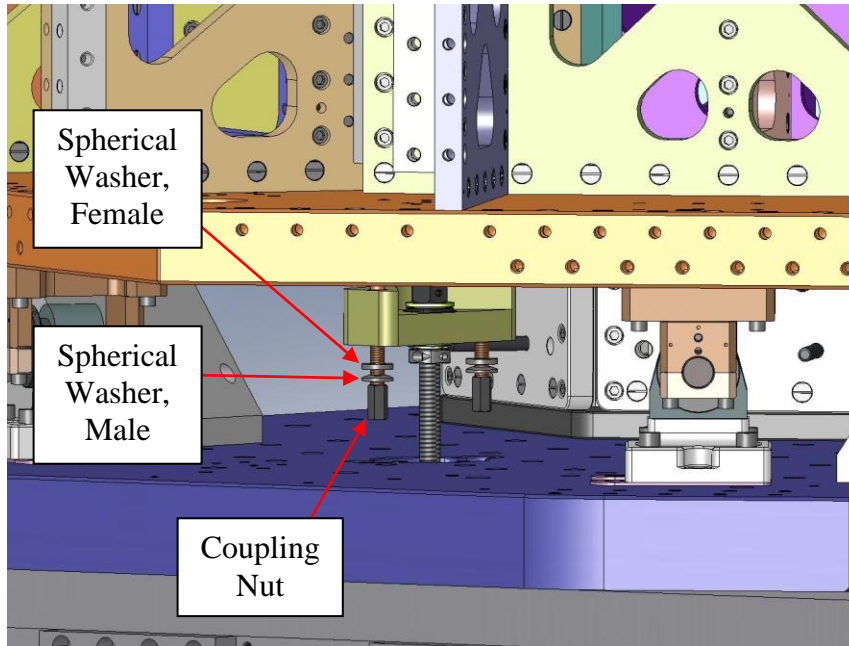

Figure 3.93. Hardware for the bottom ends of the Pull-Down Rods.
- Place a spherical washer set (McMaster-Carr #91944A470) on each **Pull-Down Rod**, followed by a 1/2"-20 coupling nut (McMaster-Carr #90268A345), as shown in Figure 3.93.